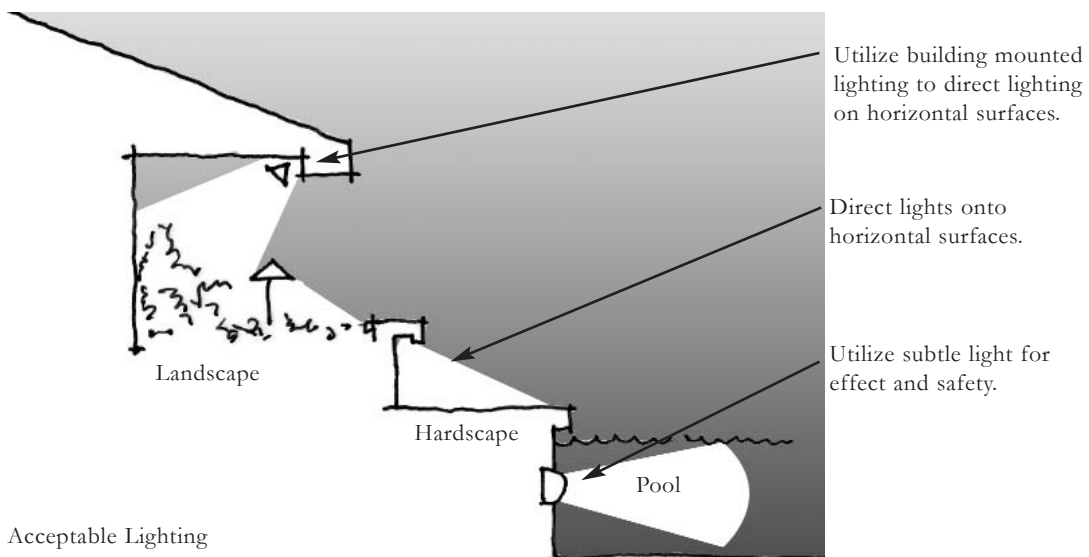

Figure 2.14b - Lighting Concepts
- To preserve the dark sky, uplighting is prohibited. Exterior site lighting must be directed onto vegetation or prominent site feature and not upon the Building and shall be achieved with hidden light sources and down lights from above. See Figure 2.14b.